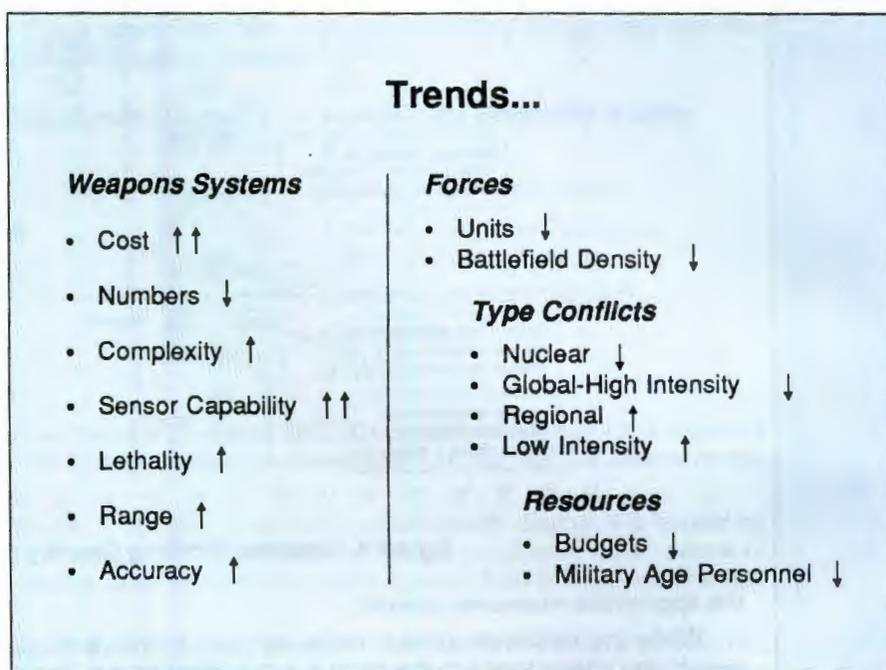

Figure 1
**T**rends within our own Army are shown in Figure 1. The implications of these trends are greater fidelity for intelligence and target acquisition systems, fewer weapons systems due to complexity and cost, and a corresponding increase in lethality based on the accuracy of precision munitions. In addition, battlefield density will decrease due to reductions in force structure.